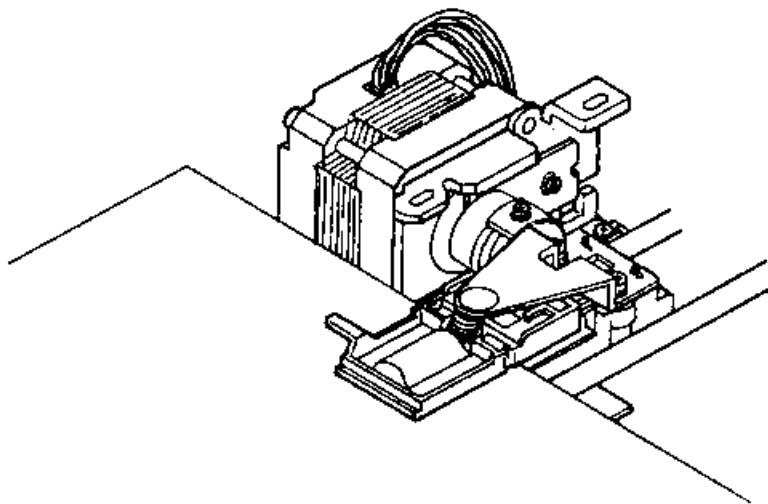

FIGURE 2-91. READ/WRITE HEAD
2.6.2 Read/Write Head (Figure 2-91)